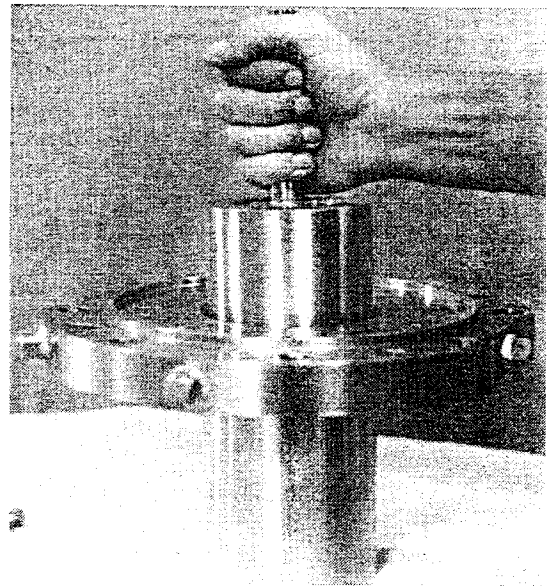

Figure 11
6. Thread a set bolt (Item 13) into the shaft flange from the impeller end and tighten. Lift the inner magnet assembly by the shaft and slowly slide it into the rear casing [Fig. 11]. Be careful of the tight tolerances between the rear bushing and sleeve. **This should only be done when the outer magnet is removed.**